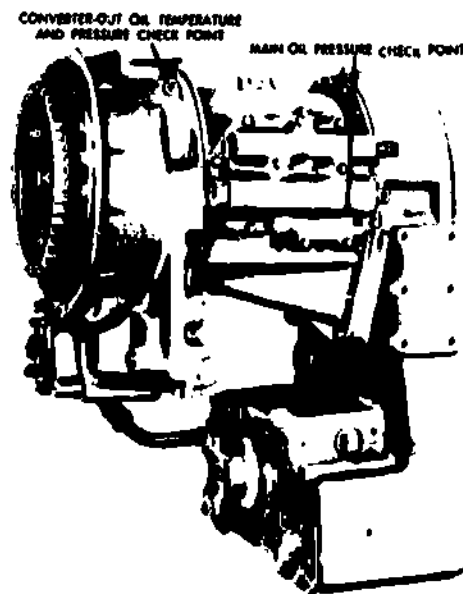

Fig 3-18. Pressure and temperature check points of a CRT-3331 torqmatic transmission.
(2) **Repair.** Torqmatic transmission repairs below the depot maintenance level are limited to tightening loose connections, checking pressure and temperature, cleaning and replacing filters and strainers, and making minor adjustments and repair. Internal repair, overhaul, and rebuild are performed at the depot level. Intermediate maintenance generally consists of the assembly being removed and replaced with a new or rebuilt one. Removal and installation procedures vary with the different vehicles. For example, the 3-ton hydraulic crane is sectionalized to facilitate transmission removal in addition to helicopter transporting. Therefore the sectionalization skids and tools will be required to remove and install a replacement transmission. Some vehicles, such as the TEREX crawler-tractor, require the transmission to be removed with other components as a unit, then removed and replaced. It should also be noted that a torqmatic transmission from one vehicle will not fit another vehicle. The method of mounting it and the location of the engine and propeller shaft connections are different although it is the same model transmission. Since the procedures for removal and installation vary and the method of mounting and connecting are different, a mechanic should refer to the TM for the specific vehicle before attempting to replace the assembly. Although internal repairs are not performed at the lower echelons, the transmission is thoroughly checked before being replaced. A stall test is performed and pressure checks made to insure that the problems are not caused by lack of maintenance at the lower echelon. To perform a full stall and pressure test, check the oil level and operate the engine and transmission long enough to bring them to operating temperature. Conduct the test according to the procedures outlined in the TM for the vehicle. Figure 3-18 shows where the pressure readings are obtained on one torqmatic transmission; other TM's will show the location for checking a specific vehicle. Engine rpm readings are taken from the vehicle tachometer unless there is doubt about its accuracy.